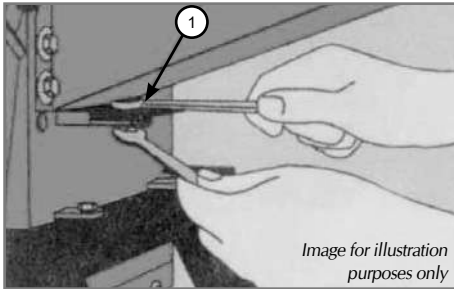
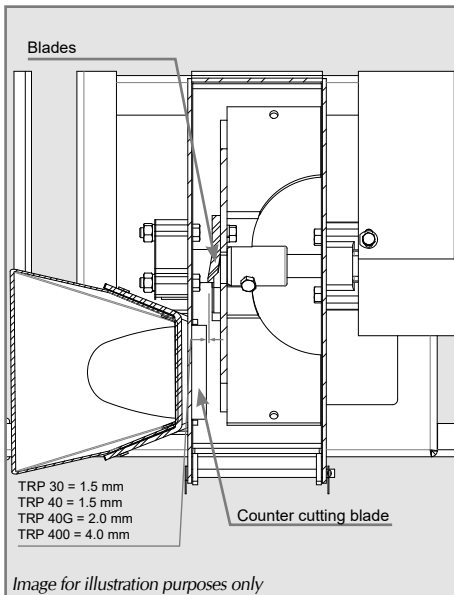

Figure 1
Figure 2
Periodic tightening of screws as well as the adjustment of the counter cutting blades are essential. To adjust, loosen the hex-head nut (1) as shown in Figure 1 and move the counter-blade until the blades are at a distance of approximately 1.5 mm for TRP 30 and TRP 40, 2.0 mm for TRP 40G and 4.0 mm for TRP 400 (Figure 2).